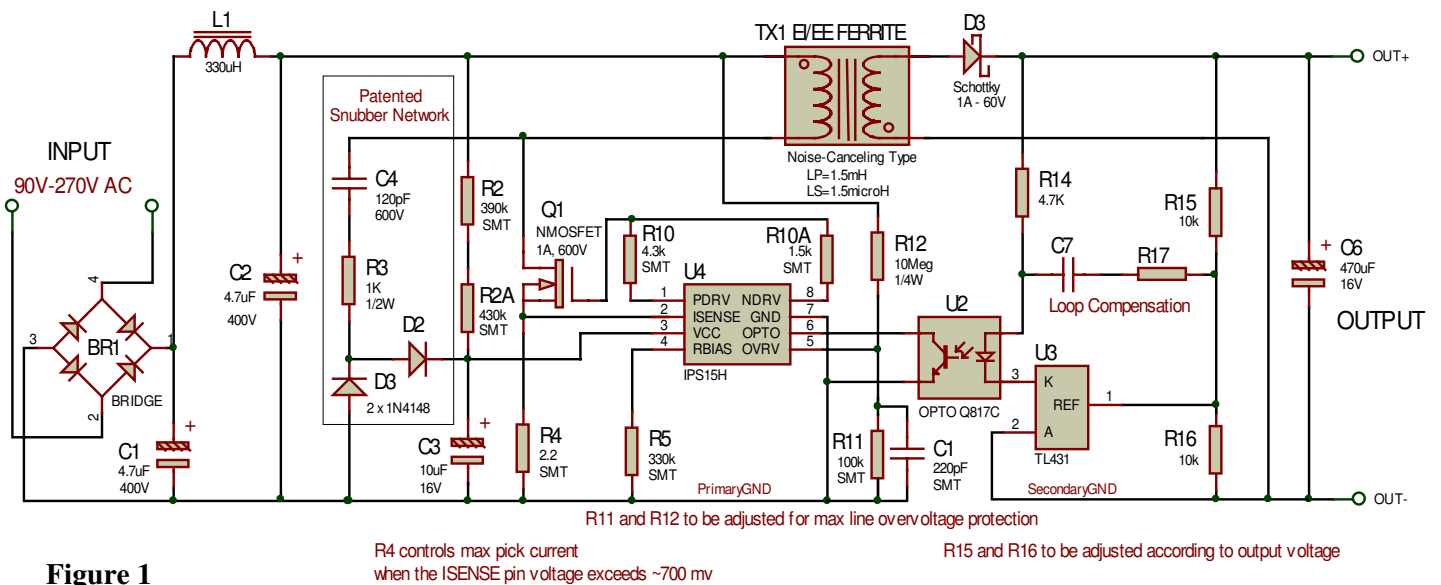

Figure 1
The output power that triggers the hiccup mode is monitored from the line-side by sensing the MOSFET current through the ISENSE resistor (R4 in the example of Fig.1). The hiccup mode doesn't require any specific component on the load-side. This mode called "hiccup" is a special "overload protection" mode where the IPS15H resets itself when an overload condition is detected and which duration exceeds the maximum authorized time  $T_{Hdtc}$  as described below:
As in our example of Fig.1 with  $R4 = 2.2\Omega$ ,  $L_p = 1.5mH$  and  $F = 70KHz \rightarrow P_{out} = 4W - \text{losses} \sim 3W$ . At 5V, the overload condition is set "true" when  $I_{peak}$  reaches approximately 600mA.
$$T_{Hoff} \sim \frac{6 \times (R2 + R2A) \times C3}{V_{in \text{ RMS}}} \text{ . In the example of figure 1, with } V_{in} = 90V, T_{Hoff} \sim \frac{6 \times 1.5M\Omega \times 10\mu F}{90V} \sim 1s$$
**Calculation of the max value of the output capacitor C6 (see Fig.1):**